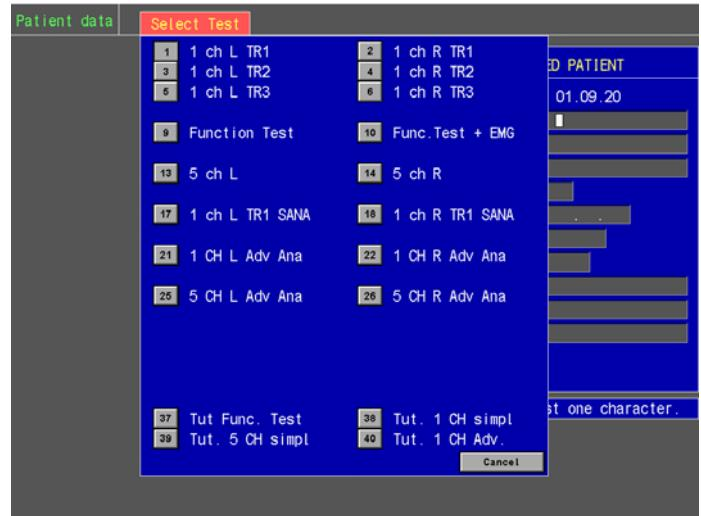

Figure 67 The Select Test Menu
- Click **OK** to proceed to the Select Test Menu, see Figure 67 below.
- In the Select Test Menu, click the selectable button number **37** named Tut. Func. Test, see Figure 67 above.